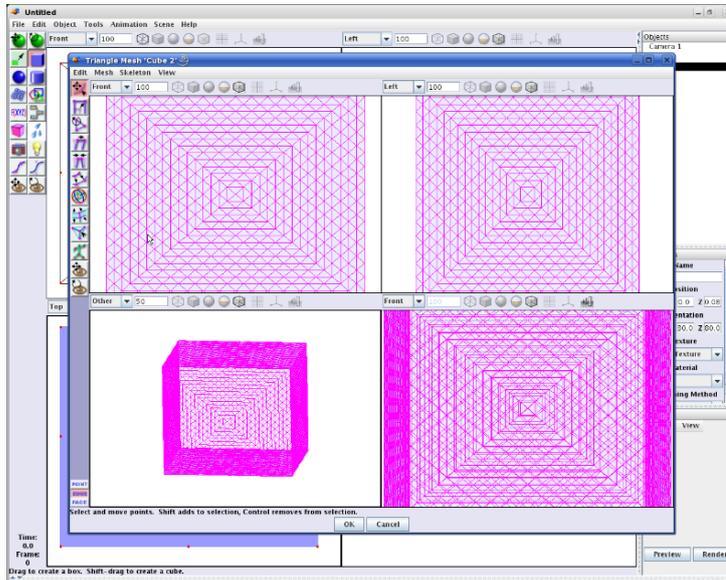

Figure 1: What the box should look like
5. Subdivide edges repeatedly until you have a fine mesh as shown in figure 1.